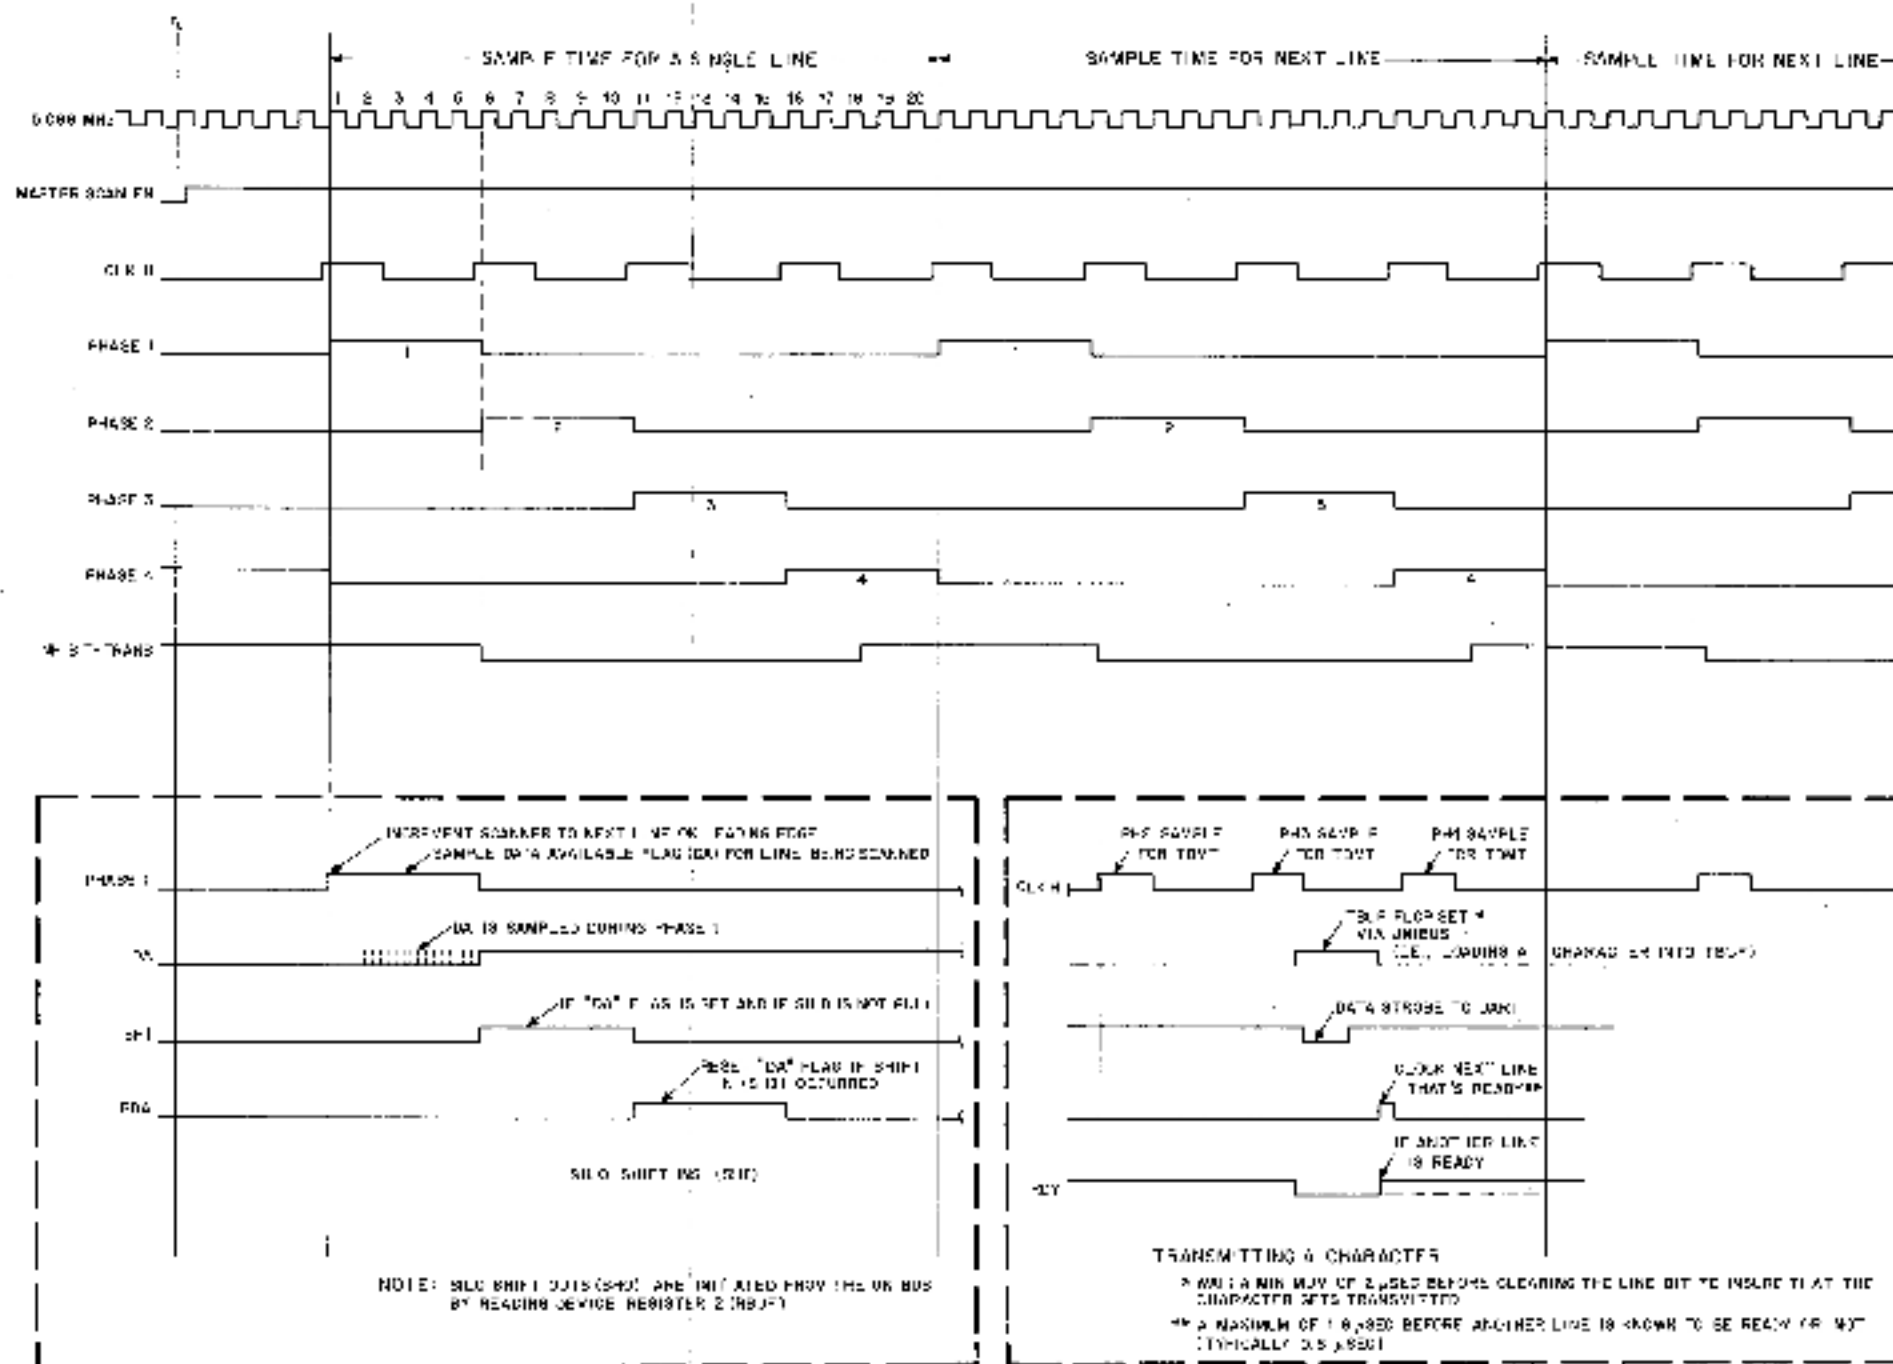
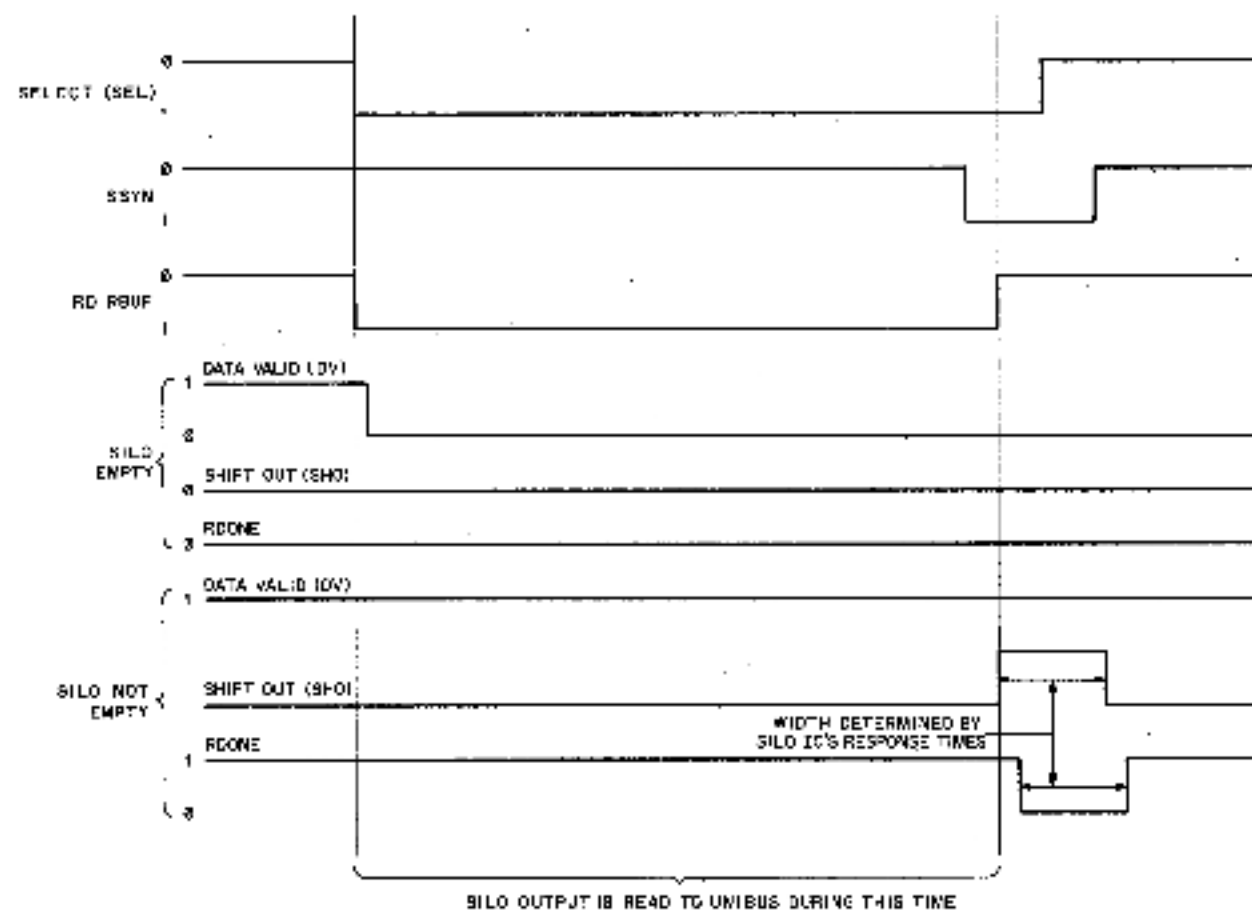

Figure 4-12 DZ11-A Scanner Timing
Figure 4-13 Silo Character Shift Out Timing Diagram
The scanner times the operation of loading a character into the silo and reading the RBUF. Refer to the timing diagram in Figure 4-12. At the trailing edge of phase 4 (the leading edge of phase 1), the scanner is incremented to the next line for sampling. During phase 1, the Data Available (DA) flag is sampled, and if set and the silo is not full, a Shift-In (SHI) pulse (leading edge of phase 2) moves a character from the UART for that line to the silo. At the trailing edge of phase 2 (start of phase 3), the Reset Data Available (RDA) pulse resets the DA flag if the SHI occurred during phase 2. Phase 4 terminates the RDA pulse and the scanner increments to the next line at the leading edge of the next phase 1. To complete the scanner operation, the Unibus initiates a character shift out of the silo by reading the RBUF. Refer to Figure 4-13.